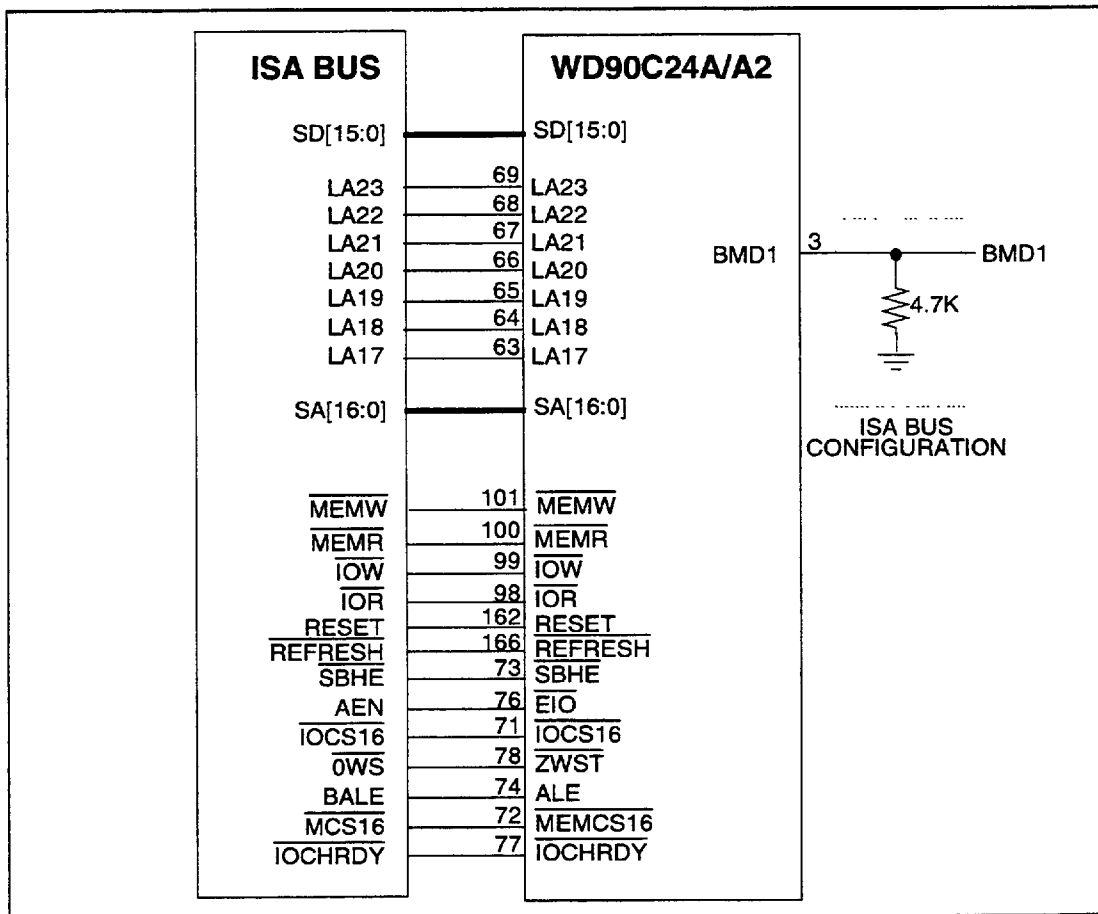

FIGURE 3-1. ISA BUS INTERFACE DIAGRAM
- PC/XT/AT (ISA) bus (see Figure 3-1)
The WD90C24A/A2 interfaces to an ISA bus at bus clock rates of up to 12.5 MHz. The WD90C24A/A2 supports full 16-bit I/O and memory transfers. Support of 16-bit memory transfers is independent of whether the WD90C24A/A2 has an 8-bit or 16-bit display memory path, although increased performance occurs when a 16-bit display memory is available (See Figure 3-1).